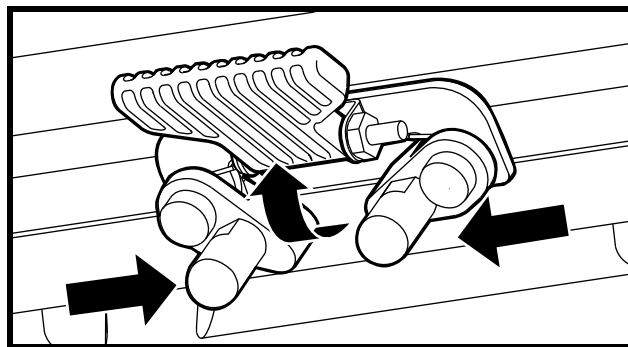

Figure 13. Seat Latch Safety
4. Flip up the seat latch safety. **See figure 13.**